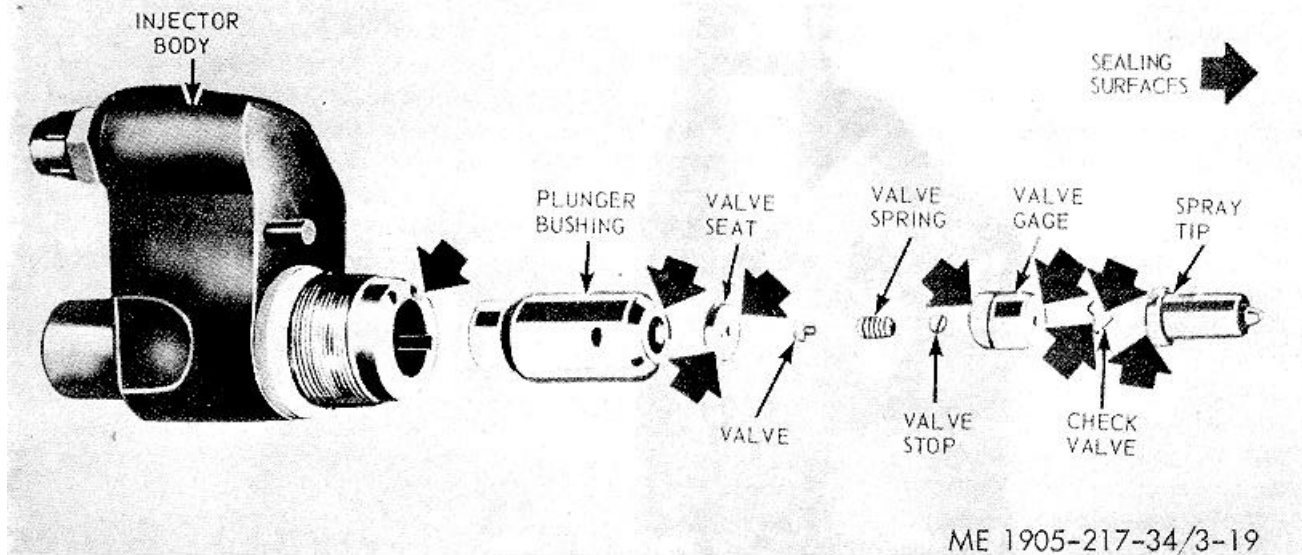

Figure 3-19. Fuel injector sealing surfaces which may require lapping
(5) When handling the injector plunger, do not touch finished plunger surfaces with the fingers. Wash plunger and bushing with clean fuel oil and dry with filtered compressed air. Final clean with soft tissue paper. Keep plunger and bushing together as they are mated parts. After cleaning, keep parts of each injector in separate clean containers.
(6) Inspect the teeth on the control rack and control rack gear for excessive wear or damage. Inspect both ends of spill deflector for sharp edges or burrs which could create burrs on the injector body nut. Remove burrs with a medium stone.
(7) Inspect follower spring for defects and proper tension. The spring has a free length of approximately 1.668 inches. Replace spring when a load of less than 48 lbs will compress it to 1.028 in length.
(8) Check the seal ring area in the injector body and the surface with contacts the injector bushing for damage, if necessary, lap the surface (para (g) below). A faulty sealing surface at this point will result in a high fuel consumption and contamination of the lubricating oil.
(9) Inspect the injector plunger for scoring erosion, chipping or wear at helix. Check plunger for sharp edges on that portion which rides in the gear. Remove sharp edges with 500 grit stone. Wash plunger after stoning. Inspect the plunger bushing for damage. Slip plunger straight into bushing and check for free movement. Replace defective plunger and bushing as an assembly, if either one is damaged. Injector plungers cannot be reworked to change the output. Grinding will destroy the hardened case of the helix and will result in seizure or scoring of the plunger.
(10) Inspect the spray tip seating surface in the injector nut for excessive nicks, burrs or hard spots. Reseat surface or replace nut.
(11) Inspect the injector valve spring for wear or damage. Replace defective spring.
(12) Inspect the sealing surfaces of the spray tip and valve parts as indicated by arrows, (fig. 3-19). Inspect all surfaces with a magnifying glass for even the slightest imperfections will prevent the injector from operating properly. Check for burrs, nicks, erosion, cracks, chipping and excessive wear. Inspect the spray tip for enlarged orifices. Replace damaged or worn parts. Refer to paragraph g below for lapping injector parts.